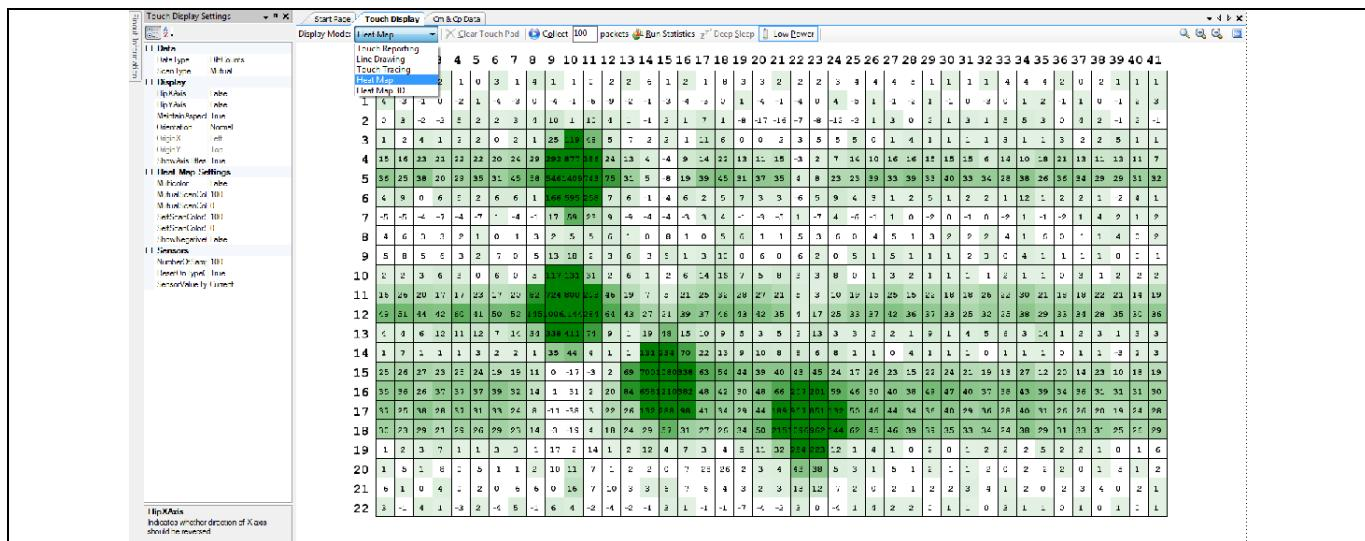

Figure 15 Heat map mode
15. To view actual sensor data, select **Heat Map** in the drop-down menu. In the Touch Display Settings window, under the **Data** tab, select **Data Type** value to **DiffCounts**. Your window should look similar to Figure 15.